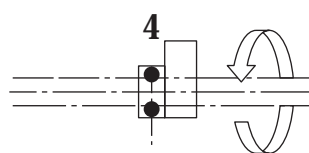

Fig.7
10. Turn handwheel (90°) counterclockwise and check position of eccentric screws "4".(Fig.7)